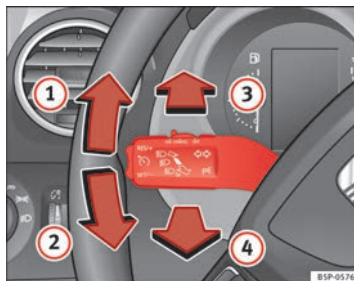

Fig. 76 Turn signal and main beam headlight lever
- Move the lever all the way up  **fig. 76 1** to indicate **right**, and all the way down **2** to indicate **left**.
- If the dipped lights are on, push the lever forward ⇒ fig. 76 ③ to switch on the main beam.
- Push the lever towards the steering wheel ⇒ fig. 76 ④ to switch off the main beam.